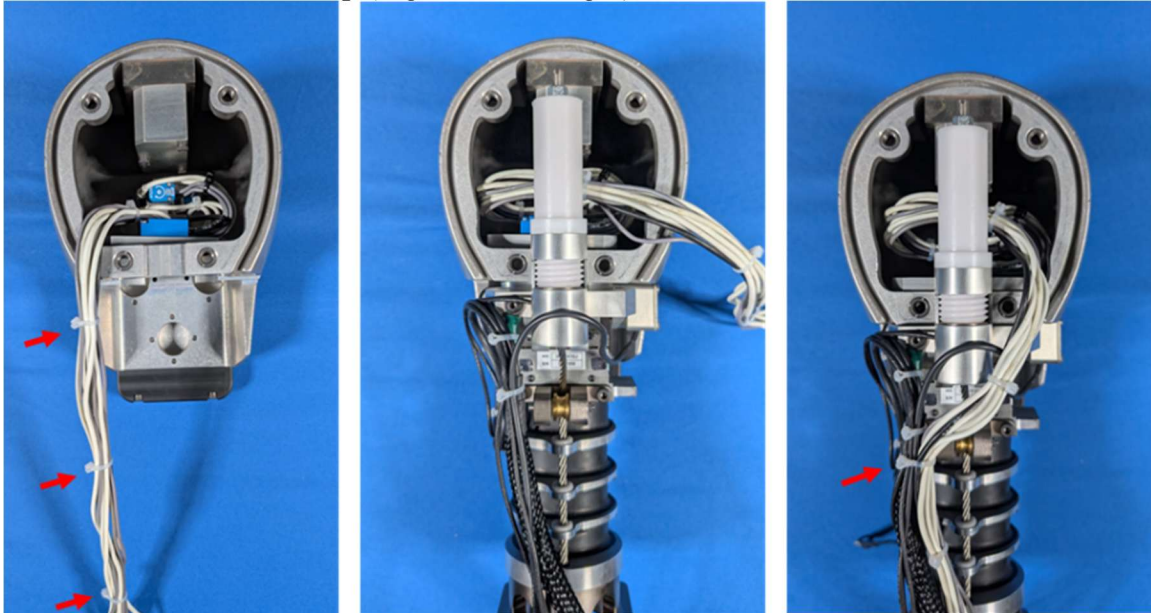

Figure 13-20. Wire routing for head and neck instrumentation
13.4.1.6 Install the head instrumentation into the head. Strain-relieve the head bundle (Figure 13-20 Left). Next, install the rear neck cable/spring assembly (Figure 13-20 Center). Place the internal instrumentation wires from the head to the dummy's right, behind the spring tower. Combine the head and neck bundle and attach a tie wrap (Figure 13-20 Right).